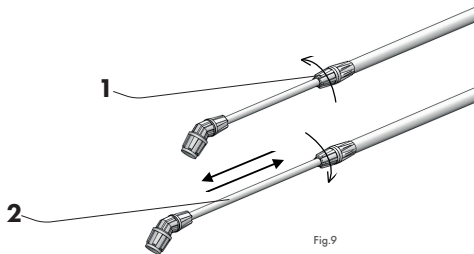

Fig.9
The lance can be extended to 1.2 m if required. To do this, loosen the conical nut (Fig. 9/item 1), slide out the adjustable part of the lance (Fig. 9/item 2) to obtain the desired length (max. 0.54 m) and tighten the conical nut (Fig. 9/item 1).